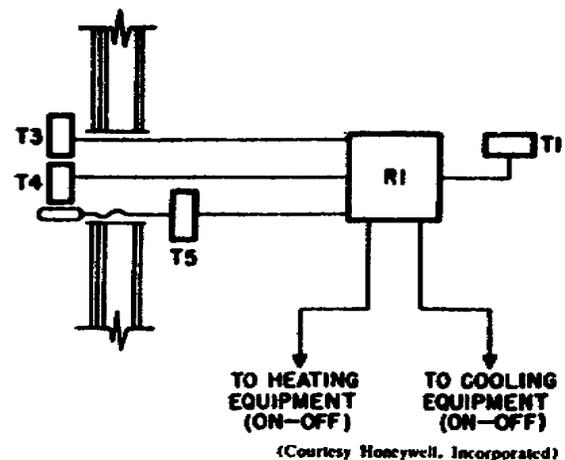

Figure 135. Two-position heating and cooling system.
9. **Summer-Water Compensation for a Two-Position Heating or Cooling System** Controller T5 shown in figure 135 will select either the summer or winter compensation schedule. This selection depends upon the outdoor temperature.